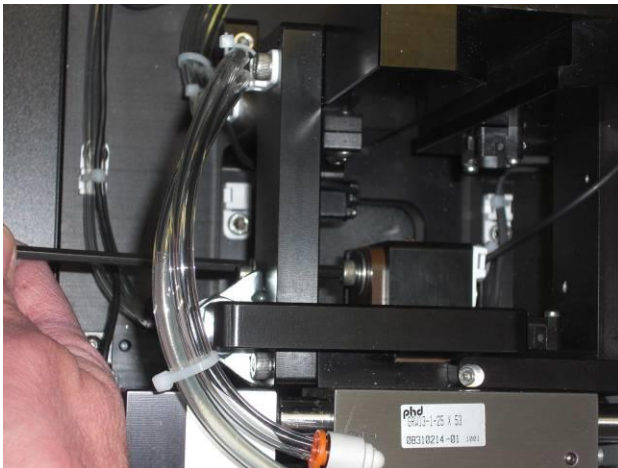

Figure 2.6.3
- To adjust this distance, loosen the one 5mm socket cap screw on the side of the gate and move the gate in or out depending on the stick out desired. **Figures 2.6.3 and 2.6.4** Re-tighten the screw before attempting to run the unit.